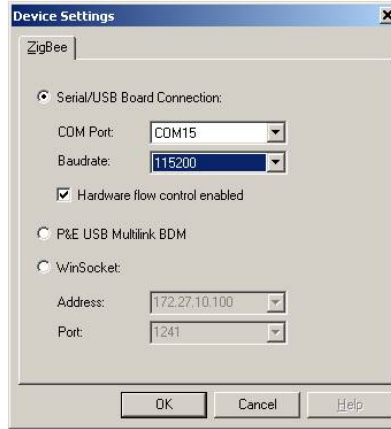

Figure 34 – Screen, FSTT – Comm Dev Setting
- 4) Click on **'Add Internal'**. The screen in Figure 34 will appear.